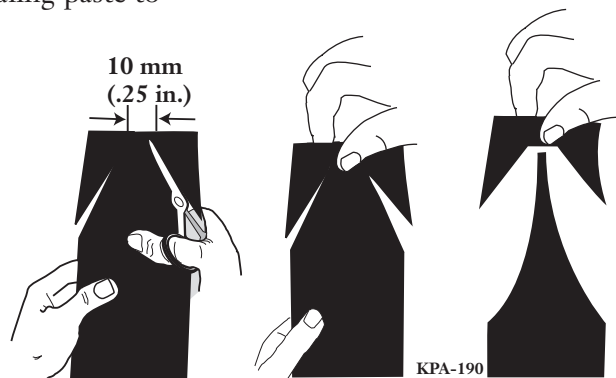

Figure 14 — Sealing Tape
- Step 3** Cut and pull the strip of sealing tape as shown in Figure 14. The tape will stretch and thin before it breaks.